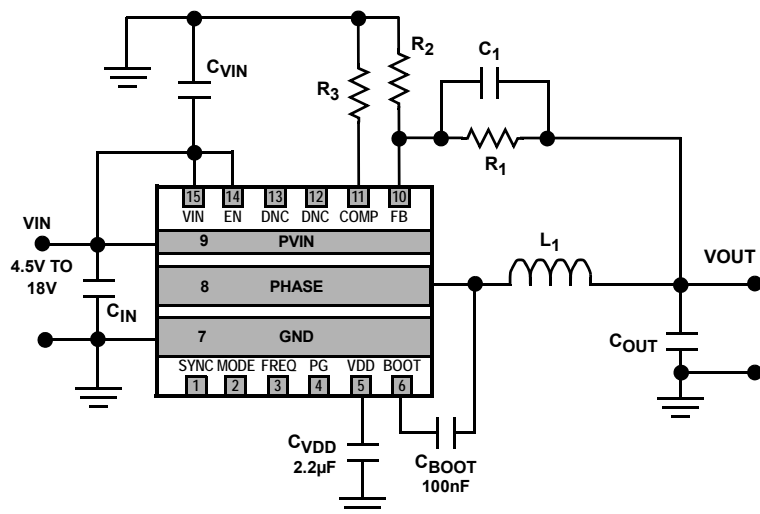

FIGURE 1. TYPICAL APPLICATION SCHEMATIC FOR INTERNAL COMPENSATION
TABLE 1. DESIGN TABLE FOR DIFFERENT OUTPUT VOLTAGE USING INTERNAL COMPENSATION (See Figure 1)
- The design table is referencing the schematic shown in Figure 1.